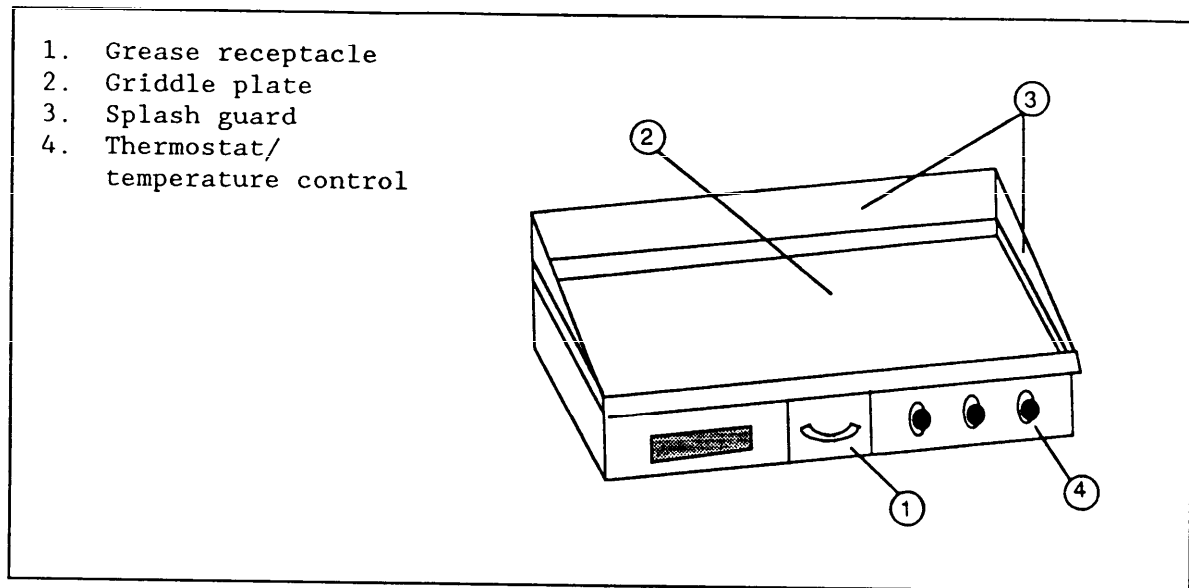

Figure 11
5.9.2 Major Griddle Components. Major griddle components include the gas or heating source, heating elements, and the components shown in Figure 11.